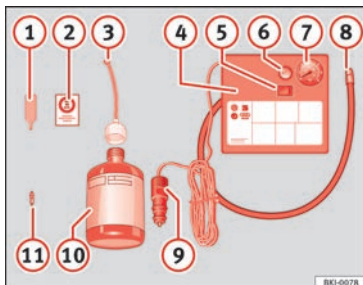

Fig. 105 Standard representation: contents of the anti-puncture kit.
The anti-puncture kit is located underneath the floor covering in the luggage compartment. It includes the following components » **Fig. 105:**
Screw in the inflator tube » **Fig. 105 ⑧** again and check the pressure on the gauge ⑦.